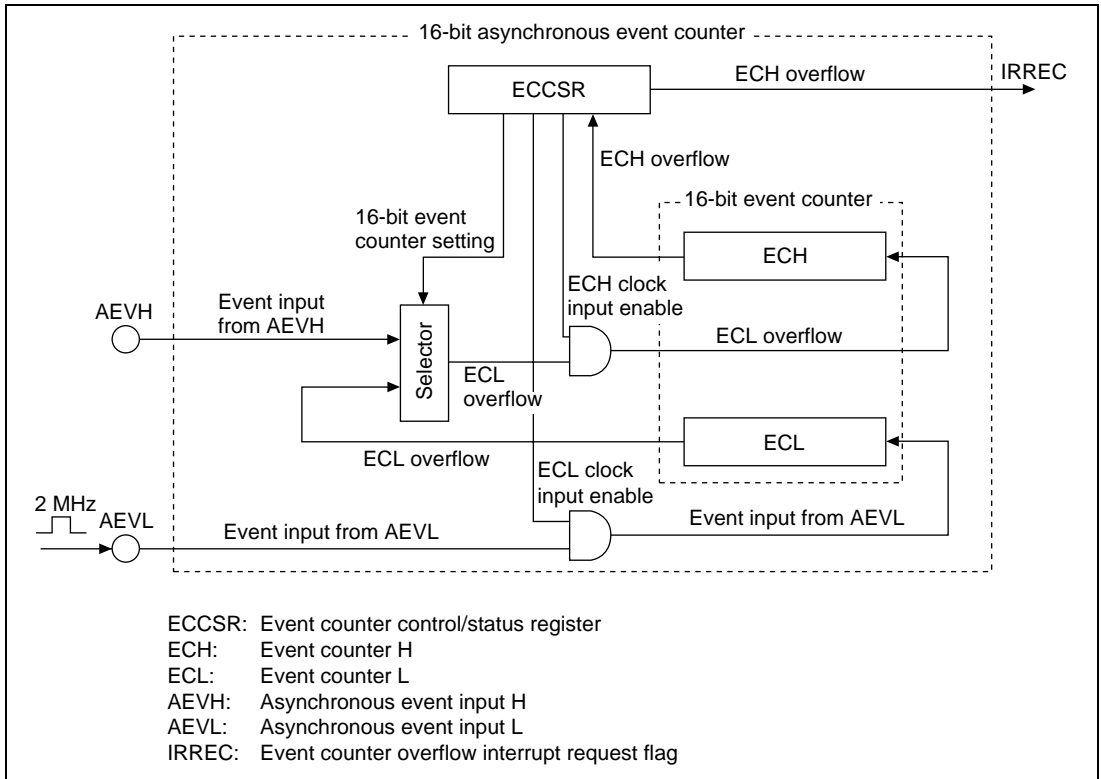

Figure 1 Block Diagram of Asynchronous Event Counter
2. Figure 1 is a block diagram of the 16-bit asynchronous event counter used in this task example.